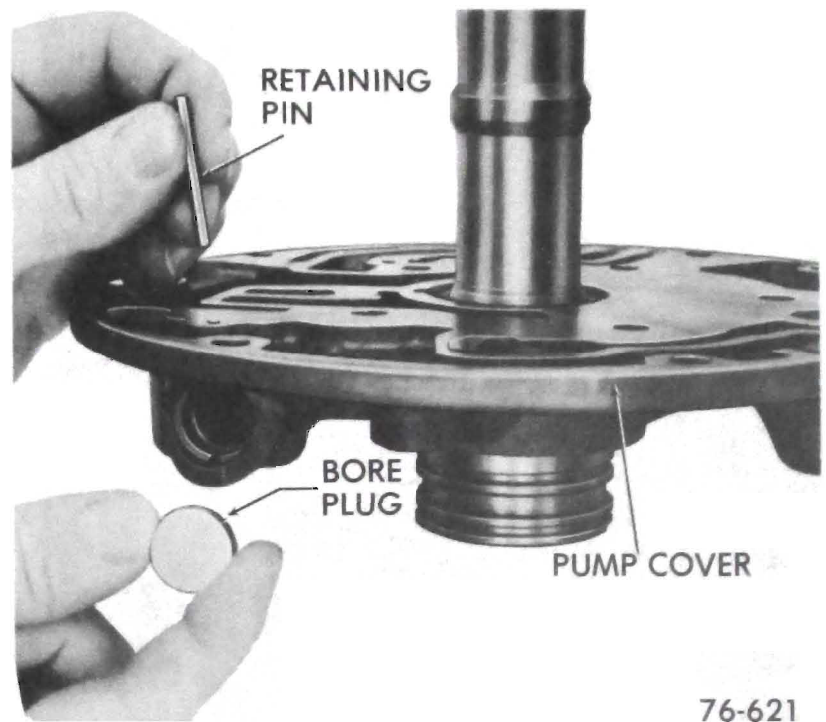

Figure 76-170
6. Install the pressure regulator valve bore plug and retaining pin into opposite end of bore. See Figure 76-170.